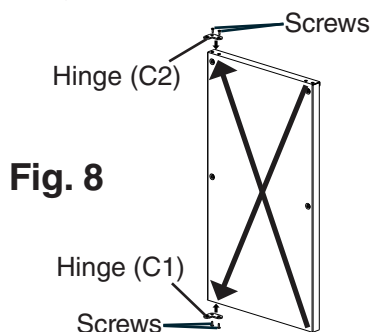

Fig. 8
- f) Remove hinge (C1) from the top right part of the door, flip it and reattach to the bottom left. Remove hinge (C2) from the bottom right part of the door, flip it and reattach to the top left. See Fig. 8. Proceed to step 7.